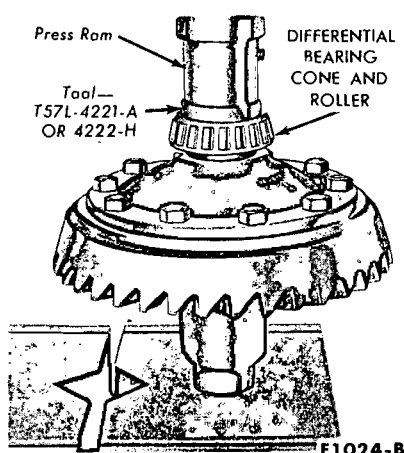

FIG. 51—Installing Differential Bearing
7. If the differential bearings have been removed, press them on as shown in Fig. 51.